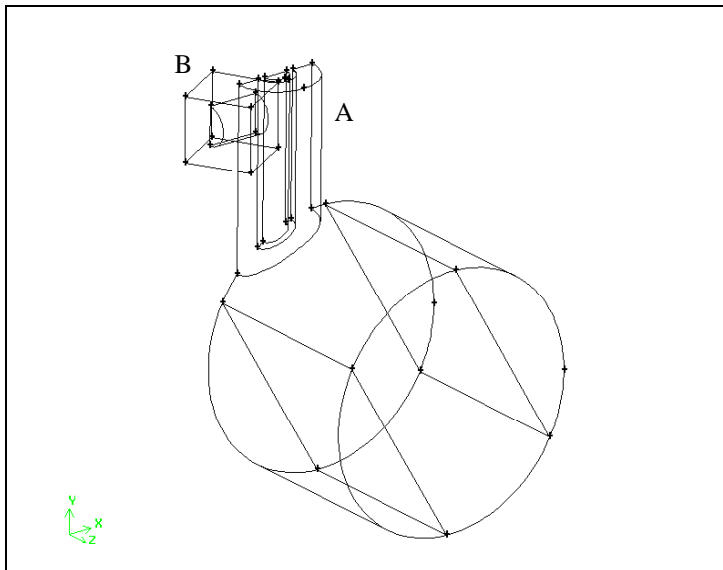

Figure 7-23: Volumes to be used in the split
- a) Select the volume that contains most of the pipe sections in the geometry (the volume marked A in Figure 7-23) and accept the selection.
- d) Select the brick (marked B in Figure 7-23) in the graphics window.